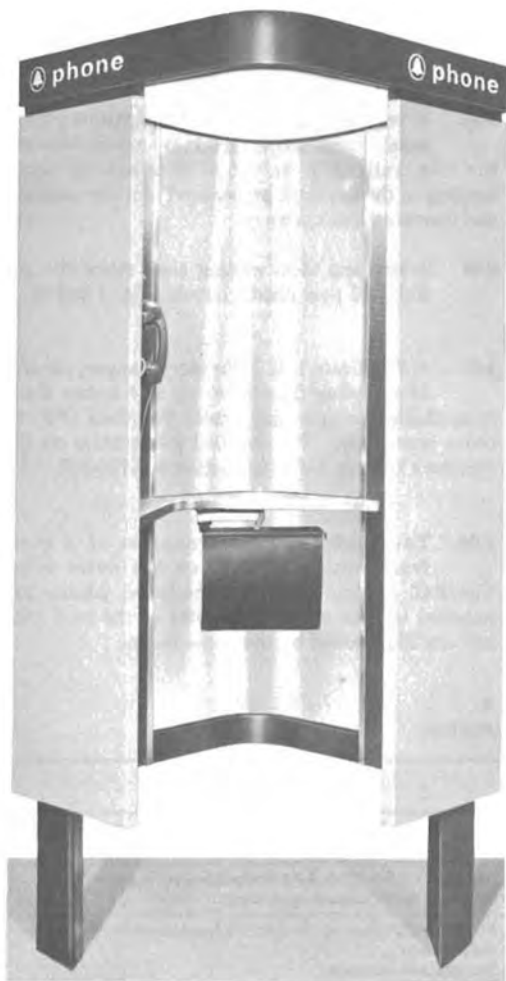

Fig. 1—KS-20255, List 1 Telephone Kiosk
1.02 The telephone kiosk (Fig. 1 and 2) is an outdoor diamond shaped steel and plastic, doorless phone booth designed for single installation stand-up service. The mounting surface serves as the floor.
2.07 A stainless steel writing shelf spans the left wall and rear plastic panels (Fig. 1 and 2).